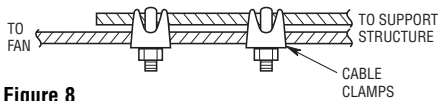

Figure 8
- 3. This fan is equipped with the required retention cable. This cable must be affixed to the building structure and securely clamped in such a manner to support the weight of the fan in the event the mounting hook or other parts fail. After wrapping cable around or to a structural member that will support 50 pounds, secure cable with supplied cable clamps as illustrated in Figure 8.
**CAUTION: It is important to note the proper installation position of the cable clamps as illustrated in Figure 8. To obtain maximum holding power, install U-bolt section of clip on dead or short end of cable and saddle on long end of cable. Improper installation reduces the efficiency of the connection by as**